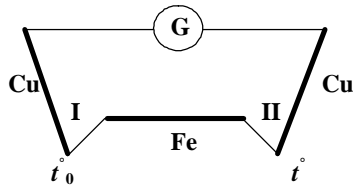

Figure 2.2
Consider a circuit, in which thermo-couple is connected to a sensitive galvanometer and one of soldered junctions is maintained at constant temperature  $t_0^\circ$  (see fig. 2.2). If the metals of thermocouple are properly chosen, the magnitude of  $h$  is constant in a wide temperature range. Then the current flowing through the galvanometer is directly proportional to the temperature difference between the junctions. If a scale deflection of the galvanometer is  $N$  points for thermo-emf  $\varepsilon$ , then
- 3.5 Connect the galvanometer into thermo-couple's circuit as shown in fig. 2.2.